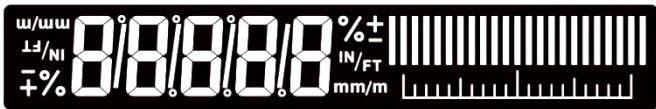

Figure 3
- The display (11) shows a scale of 23 bars imitating the physical bubble level (Fig. 3).